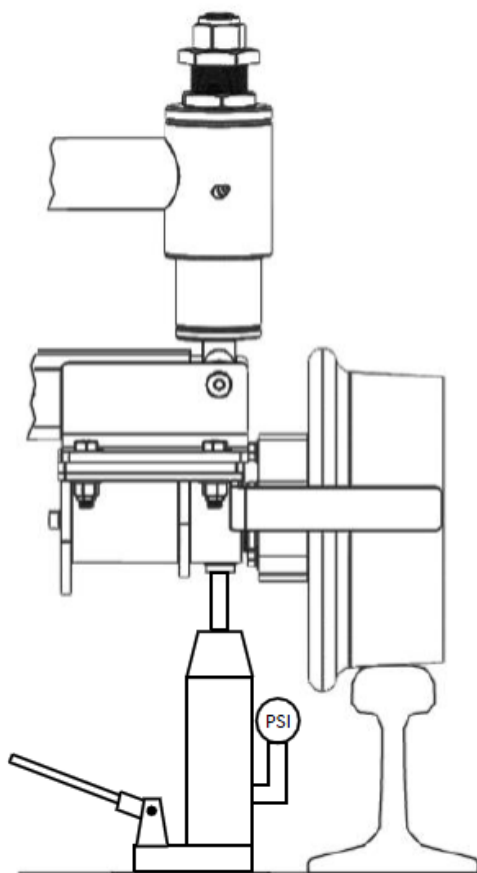

Figure 5
4. Place the LRG00160 - RAILWHEEL LOAD JACK in the position indicated in Figure 5